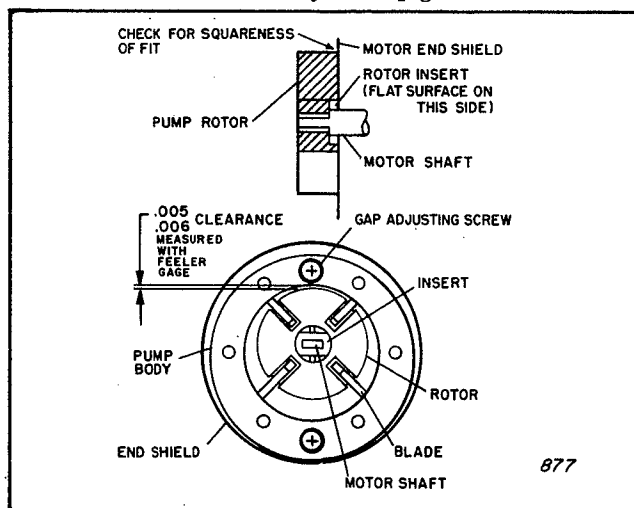

Figure 11. Checking Clearance of Air Pump Rotor
a. Install the insert in the pump rotor as shown in Figure 11, then assemble rotor on the motor shaft. Attach the pump body to the motor with the two top and bottom recessed screws which were removed to take it off.
b. Adjust the pump body to provide 0.005 to 0.006 inch clearance at the point shown in Figure 11. Measure the clearance with a feeler gage. Spin the motor by hand to be sure the rotor does not rub on the pump body. The proper clearance must be maintained. Be sure the screws are tight after adjusting the clearance.